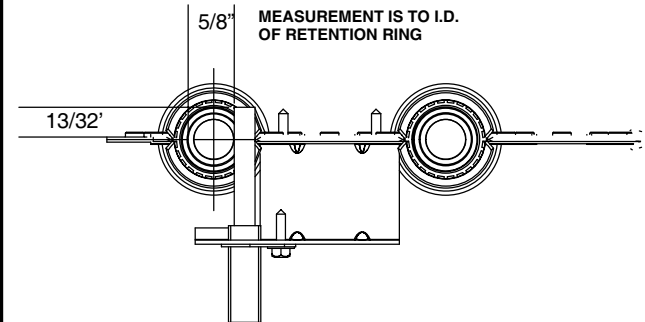

FIGURE 9
All G32-5 units are equipped with the Lennox two-stage integrated SureLight control board. The system consists of a ignition control board (figure 14 with control terminal designations in tables 7, 8 and 9) and ignitor (figure 9). The board and ignitor work in combination to ensure furnace ignition and ignitor durability. The board controls all major furnace operations. The board features two LED lights, DS1 and DS2 for troubleshooting. The board also has two accessory terminals rated at (1) one amp each. See table 10 for troubleshooting diagnostic codes.